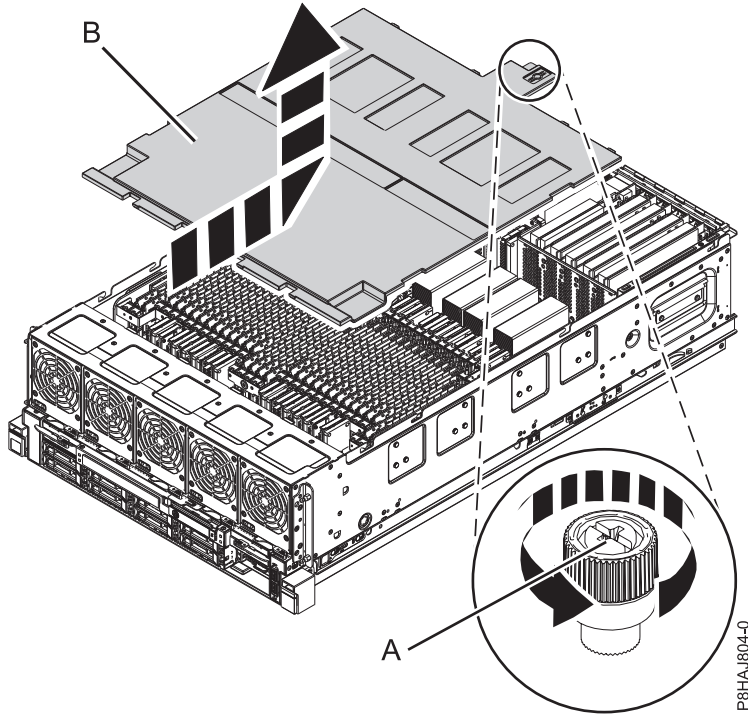

Figure 69. Removing the safety cover
2. Loosen the thumbscrew (A) located at the rear of the cover, by turning it in the direction shown in Figure 69 on page 102.
3. Slide the safety cover (B) toward the rear of the system. When the front of the cover has cleared the upper frame ledge, lift the cover up and off the system.